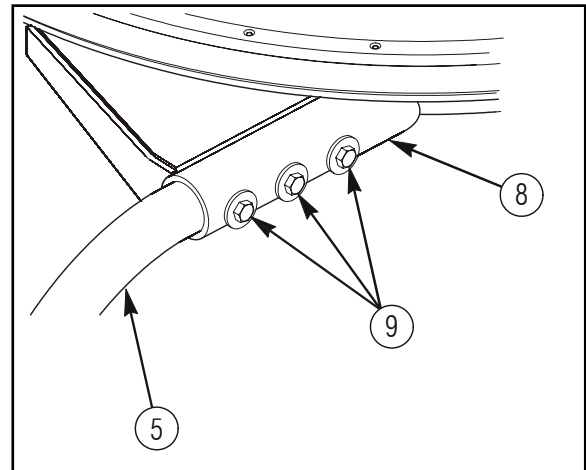

Figure 11b.
3. Loosen three capscrews (9) securing B-pillar support tube (5) to turret support assembly (8) as shown in figure 11b.